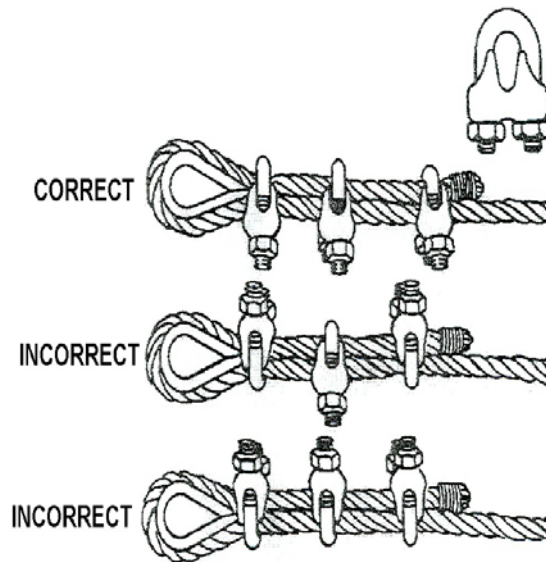

Figure 3-158
3. Direct personnel to apply the clips, spacing them about six rope diameters apart (see Figure 3-158).